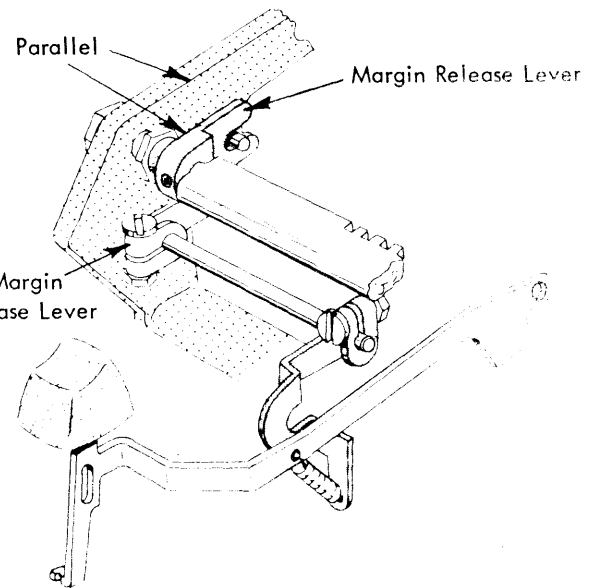

FIGURE 173. Margin Release Mechanism (723 & 725 Old Style)
2. With the margin release keylever at rest, loosen the Bristol screw in the margin release lever and rotate the margin rack (within the release lever) to a level position (Fig. 173). Then tighten the Bristol screw.
1. With the margin release keylever at rest, loosen the left hand margin release lever and adjust it radially about its shaft so that the top surface of the margin release lever (Fig. 173) is parallel with the slope of the sideframe. The lever should also be positioned laterally on its shaft so that it operates freely without restricting the margin rack motion when the rack is pushed to the left into its overbank position.